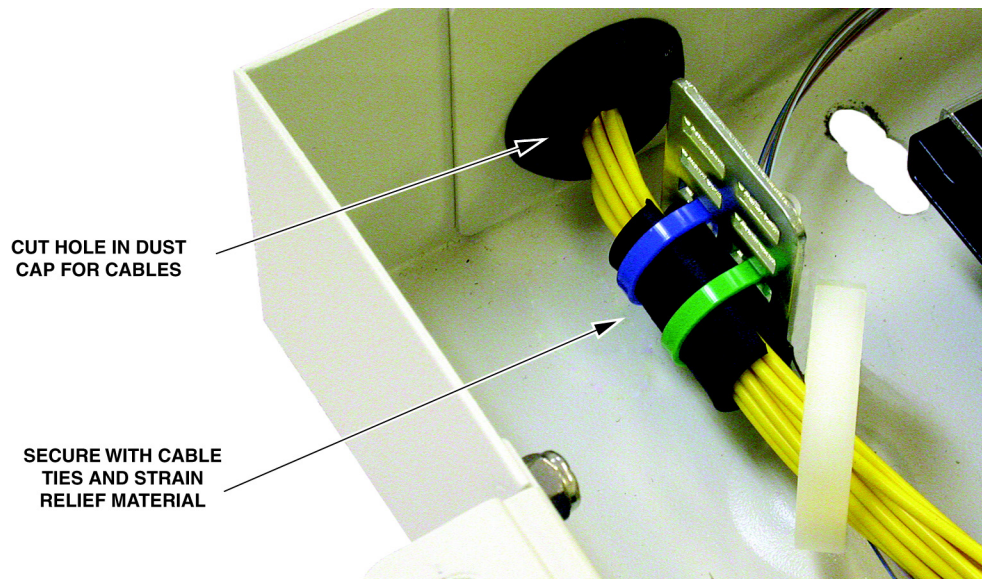

Figure 6. Lashing Cables to Cable Tie Down Plate - Typical Example
5. Secure the cable to the cable tie down plate using two cable ties as shown in Figure 6. Wrap strain relief material around the cable to prevent the cable from being excessively compressed by the cable ties. Use two cable ties to secure the cable to the bracket.